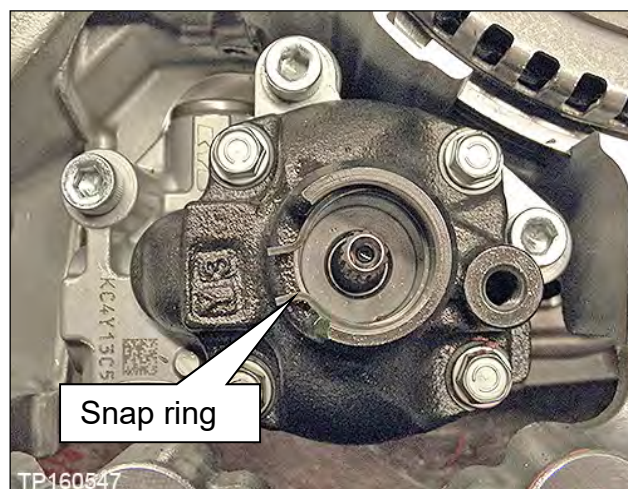

Figure 63
44. Torque the three (3) Allen®-head bolts and fitting bolt.
45. Install the new snap ring (Figure 63).